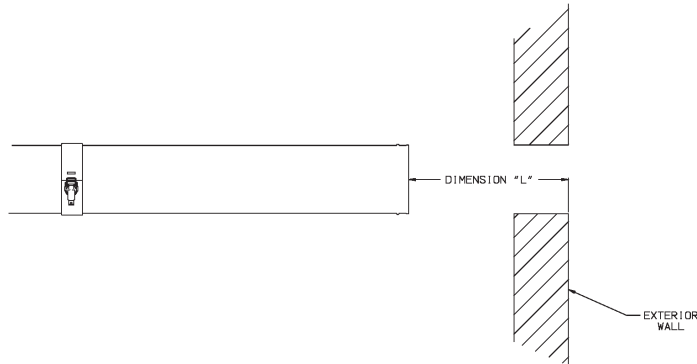

Figure 7.33a: Dimension "L", 80/125mm Horizontal Terminal
- b) Measure distance "L" from the outside surface of the exterior wall to the end of the last fitting as shown in Figure 7.33a.